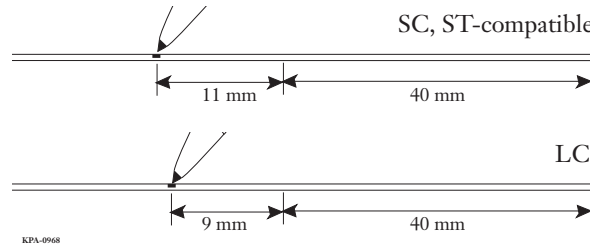

Figure 23 — Make Additional Mark on Buffer
Step 2: For SC and ST-compatible connectors, measure and place a visual mark on the buffer an additional 11 mm back from the 40 mm mark. For LC connectors, measure and mark the buffer 9 mm back (Figure 23).